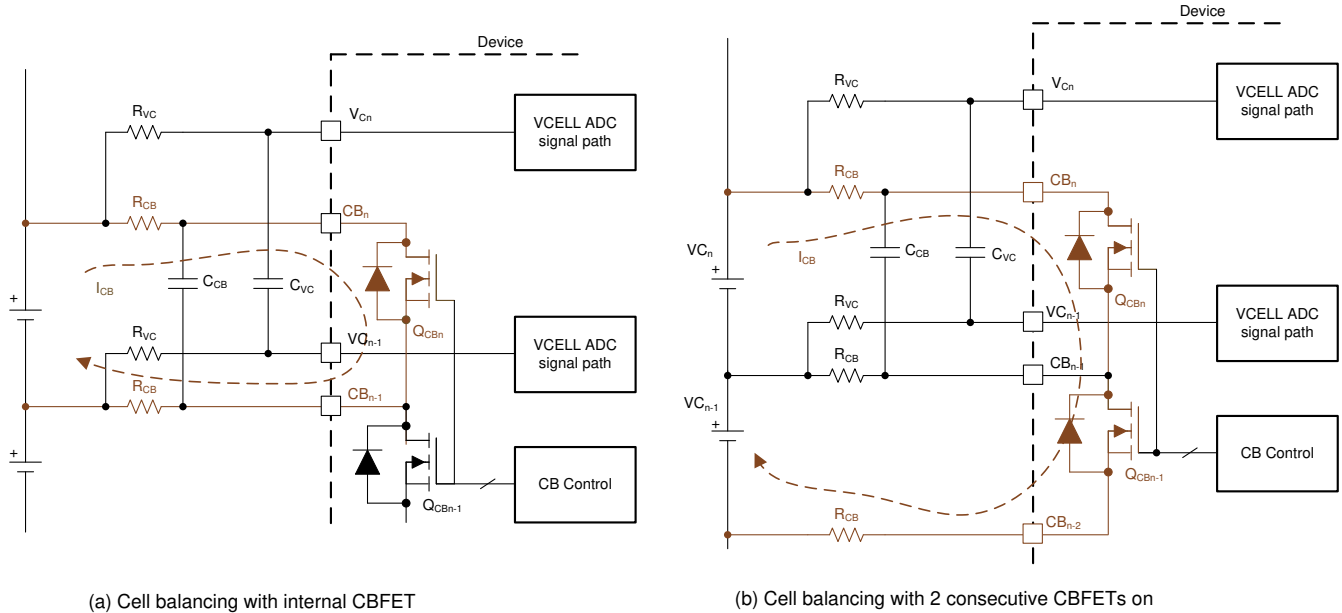

Figure 9-13. Internal Cell Balancing and the Flow of Balancing Current
- Balancing with no consecutive CBFET on (Figure 9-13 (a)): $I_{CB} = V_{Cell} / ((2 \times R_{CB}) + R_{dson_{QCB}})$
- Balancing with two consecutive CBFETs on (Figure 9-13 (b)): $I_{CB} = (\text{Sum of two } V_{CELL}) / ((2 \times R_{CB}) + R_{dson_{QCBn}} + R_{dson_{(QCBn-1)}})$
- Manual balancing control (*[AUTO_BAL] = 0*): With this method, the device will turn on the CBFETs that have non-zero balancing timer settings once *[BAL_GO] = 1* is received. There is no odd and even channel switching during the cell balancing and the *BAL_CTRL1[DUTY2:0]* setting does not apply under this control. Host MCU can enable two consecutive CBFETs with this method and a maximum of eight CBFETs can be enabled. When two consecutive CBFETs are enabled with both channels connected to battery cells, the balancing current is significantly different compared to no adjacent CBFET being on (Figure 9-13). The *DEV_CONF[NO_ADJ_CB]* bit is provided to avoid inadvertent enabling of an adjacent CBFET for a system that is not intended to have an adjacent channel on for balancing. In this control method, the device is relying on the MCU to enable the proper channels. If the MCU sends *[BAL_GO] = 1* but the CBFETs are enabled with an invalid condition, the device will not start balancing and will set *BAL_STAT[INVALID_CBCONF] = 1*. Invalid configurations are either: